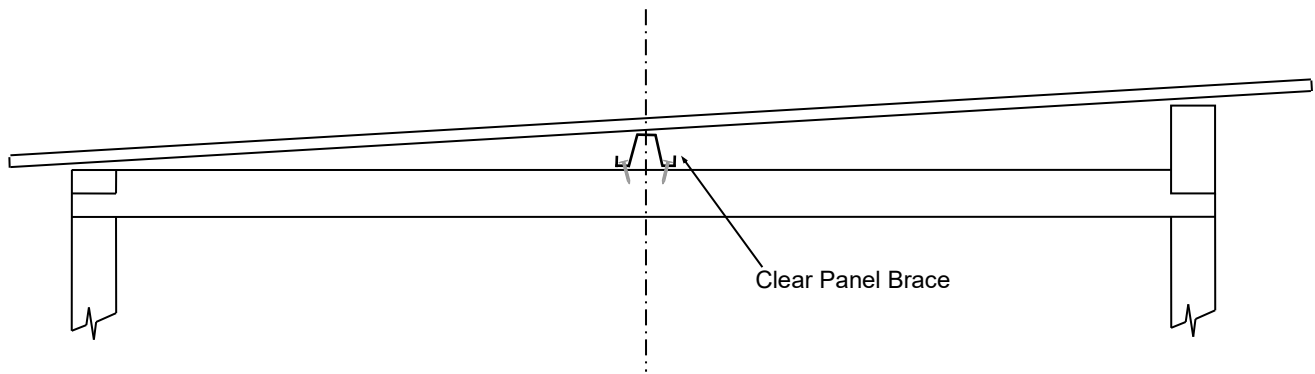

fig. 2
Step 3: Select remaining Base Plate (Green) and Top Front Plate (90 x 45mm Red). Nail to End frames using two 75mm nails per join. See (**fig. 2**) for nailing detail on Top Front Plate (90x45mm Red). Use the back wall Nogs to position the back wall stud and nail in place using two 75mm nails per join.
Step 1a: Pre-drill two holes at both ends of Clear Panel Brace. Position Clear Panel Brace centrally on Top End Plates and nail in place using two 30mm clouts each end (**fig. 2**).